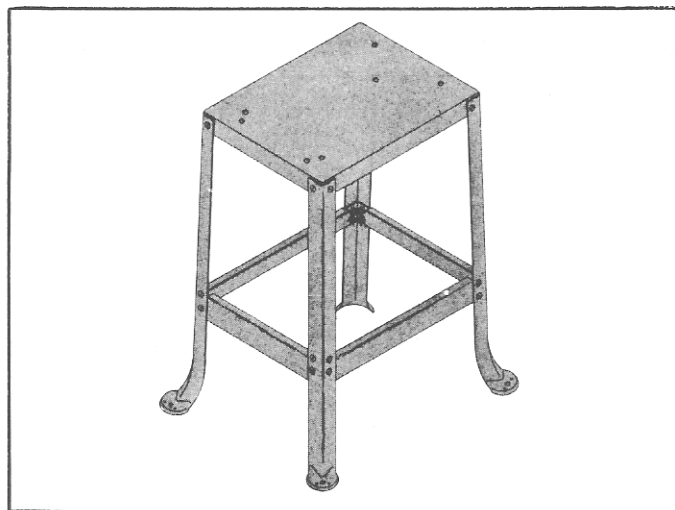
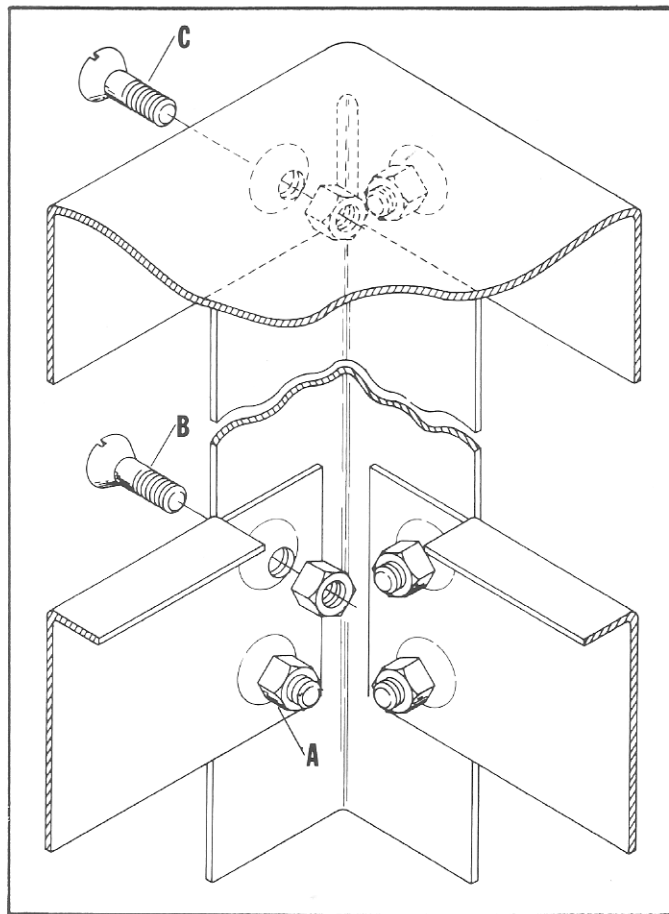

Fig. 3
Fig. 4
If you purchased the 50-315 Stand, assemble the stand as shown in Fig. 3, using the 24 screws and nuts supplied. Only tighten the screws and nuts finger tight at this time. NOTE: Fig. 4, illustrates the proper relationship of the screws and nuts to the stand. Place the stand on a level surface and tighten the screws and nuts in the following order. First the eight lower tie bar screws and nuts (A), second the eight upper tie bar screws and nuts (B), and third the eight top shelf screws and nuts (C) Fig. 4.